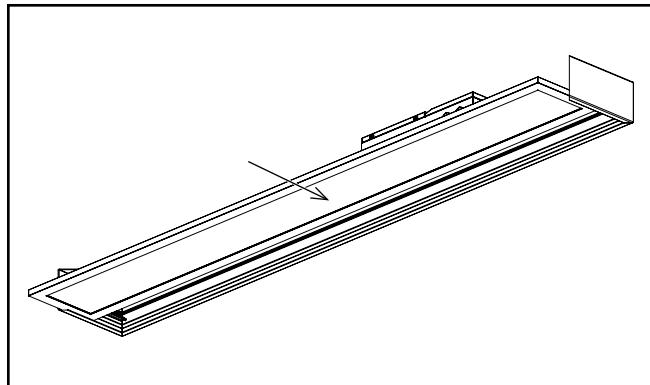

Figure 8.
- A8. Slide the fixture completely into the channel through the open side. (Figure 8.)